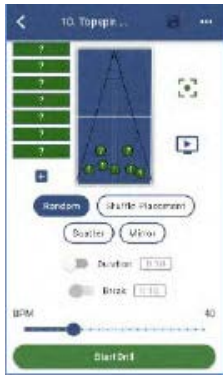

Figure 3-48
- **Random** - Plays the balls of a Drill, in a random order. When Random is selected, the Ball Selector numbers turn into question marks. (Figure 3-48)